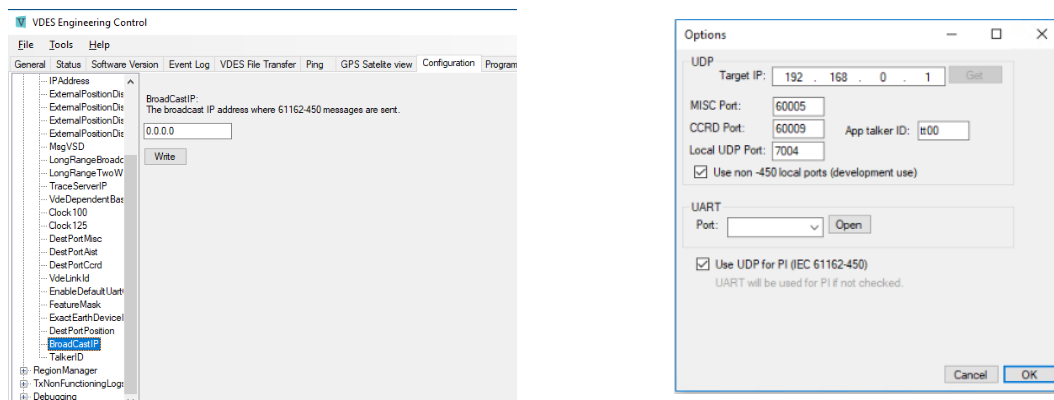

Figure 5 Setting the broadcast IP (left) and the UDP ports for development use
6. Select **Tools -> Options** and ensure that the IP address is set to that of the unit connected to the PC (default should be 10.0.0.5). See Figure 5.